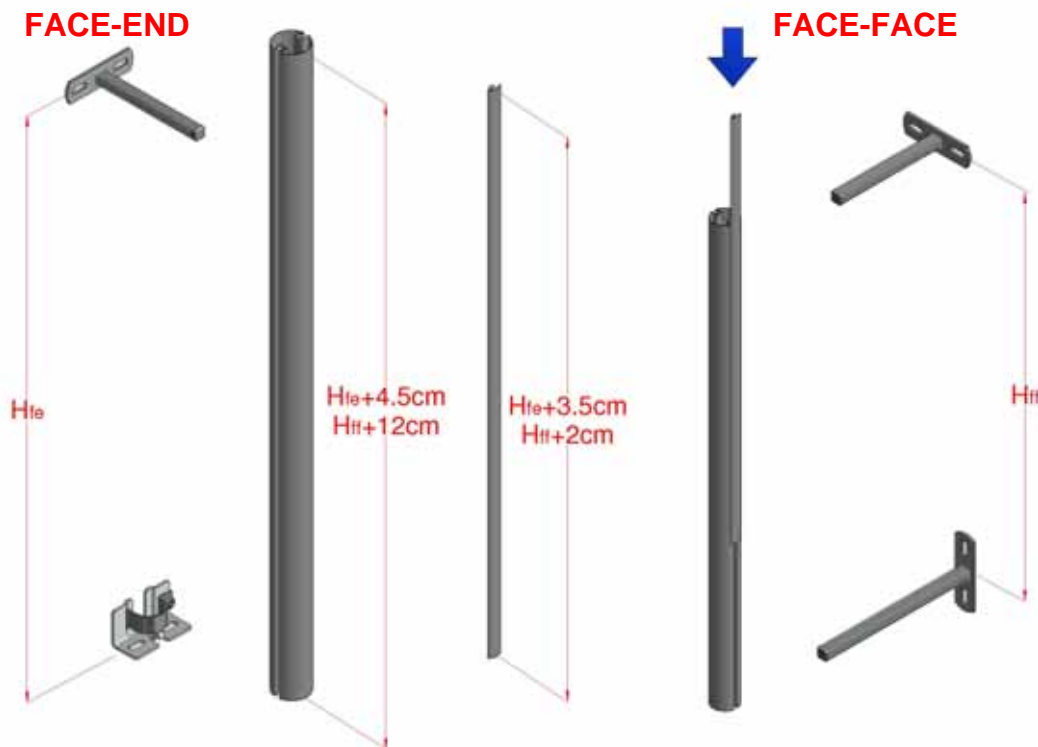

Figure 20, Outer Control Tube Assembly
- 4.7 Outer Control Tubes are required at each end for the End Covers and at all intermediate bay uprights. Cut the relevant tube to length as shown in Figure 20 and de-burr the sharp edges from the ends. Cut and insert the Protective Insert to all intermediate tubes. Cut four additional Tubes for the End Covers but do not fit Protective Insert to these.